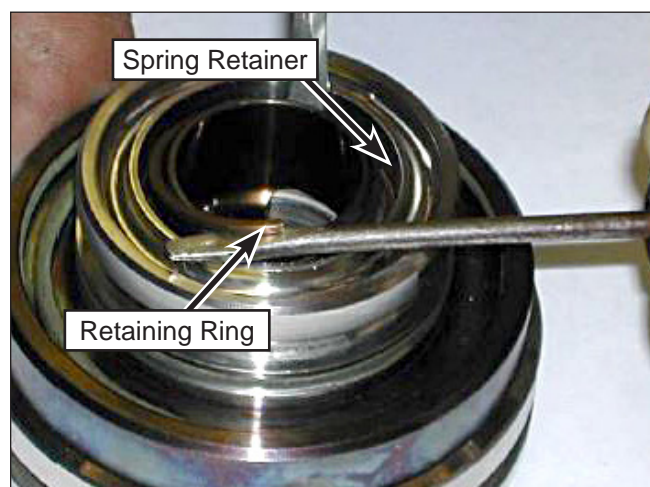

Figure 74: Removing the Retaining Ring.
3. Use a small screwdriver to depress the spring retainer. Use another screwdriver to remove the retaining ring. Insert the blade under the slit and rotate the ring out of the groove. Use caution to prevent bending or distorting the ring (Figure 74).